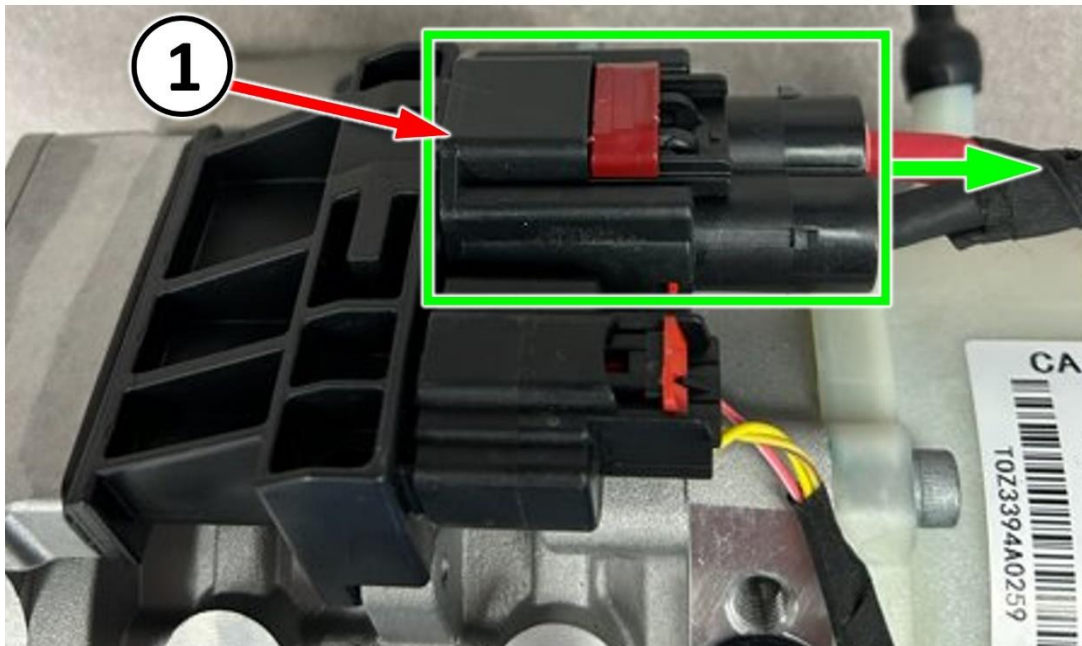

Figure B3 – EHPS Electrical Connector Pull Test
- b. Grasp the EHPS connector ONLY (not the wires) and pull to determine if it is securely connected to the EHPS pump. If connector releases, take photos to attach to repair claim. If connector does not detach, push on connector to ensure it is fully seated (Figure B3).